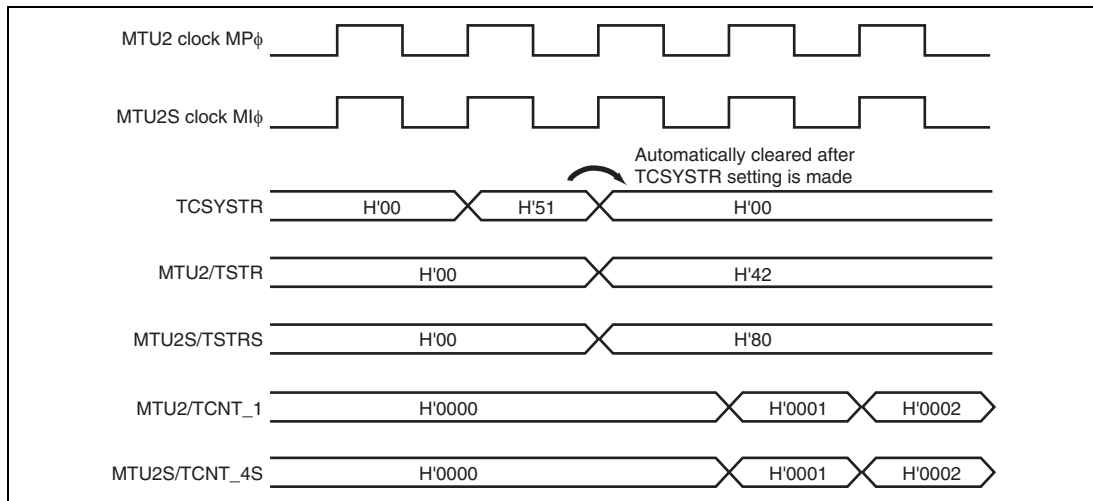

Figure 11.84 (1) Example of Synchronous Counter Start Operation (MTU2-to-MTU2S Clock Frequency Ratio = 1:1)
Figures 11.84 (1), 11.84 (2), 11.84 (3), and 11.84 (4) show examples of synchronous counter start operation when the clock frequency ratio between the MTU2 and MTU2S is 1:1, 1:2, 1:3, and 1:4, respectively.